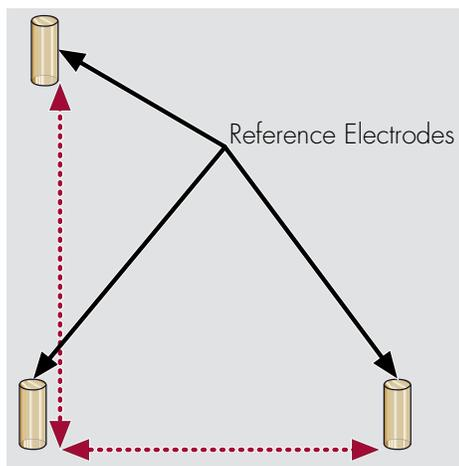

Figure 2: APEC Reference Electrodes Schematic
To improve the interpretation of indirect inspection measurements, Structural Integrity uses the APEC indirect survey technique as an additional and complementary survey technique. APEC is a combined CP survey technique that collects area potential (AP) measurements based on a modified CIS approach, in combination with an evaluation of the earth current (EC) movement using an enhanced three-half cell DCVG methodology as shown in Figure 2. In a facility, it is important to know where any corrosion cell is operating and where CP currents are flowing. When CP system rectifiers are cycled “ON” and “OFF”, the migration of CP current around the facility can be understood and used to adjust and balance the overall performance of a CP system.